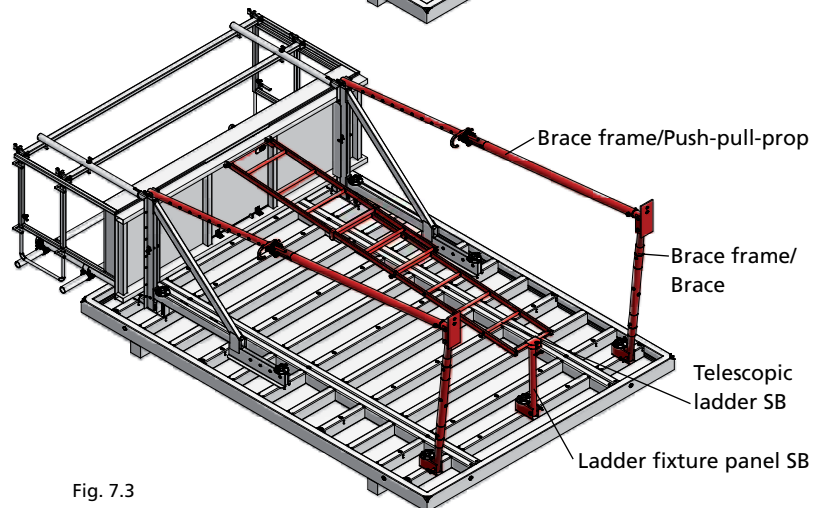

Fig. 7.3
7. Attach the ladder fixture panel SB at the panel's bottom with a flange screw 18. The flange screw must be ordered separately. (Fig. 7.3).
8. Attach the telescopic ladder with its integrated bolt to the access hatch of the aluminium platform and secure it with a cotter pin (Fig. 7.3). Then secure the low end of the telescopic ladder to the ladder fixture panel SB at the bottom of the panel.